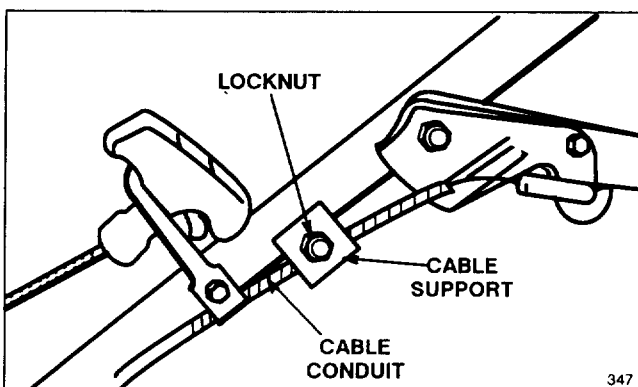

Figure 23
3. **ADJUST CABLE CONDUIT**—Loosen locknut on cable support (Fig. 23). Insert  $1/8'' - 3/16''$  object between brake lever and handle. Pull down on cable conduit until slack is removed. Then tighten locknut.